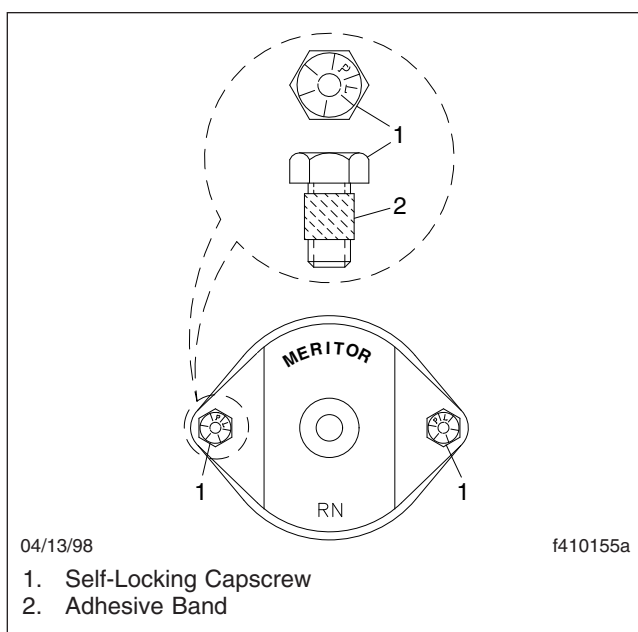

Fig. 1, Meritor U-Joint Fasteners for Full-Round Yokes
3. Remove and discard all four bearing-plate self-locking capscrews. See Fig. 1.